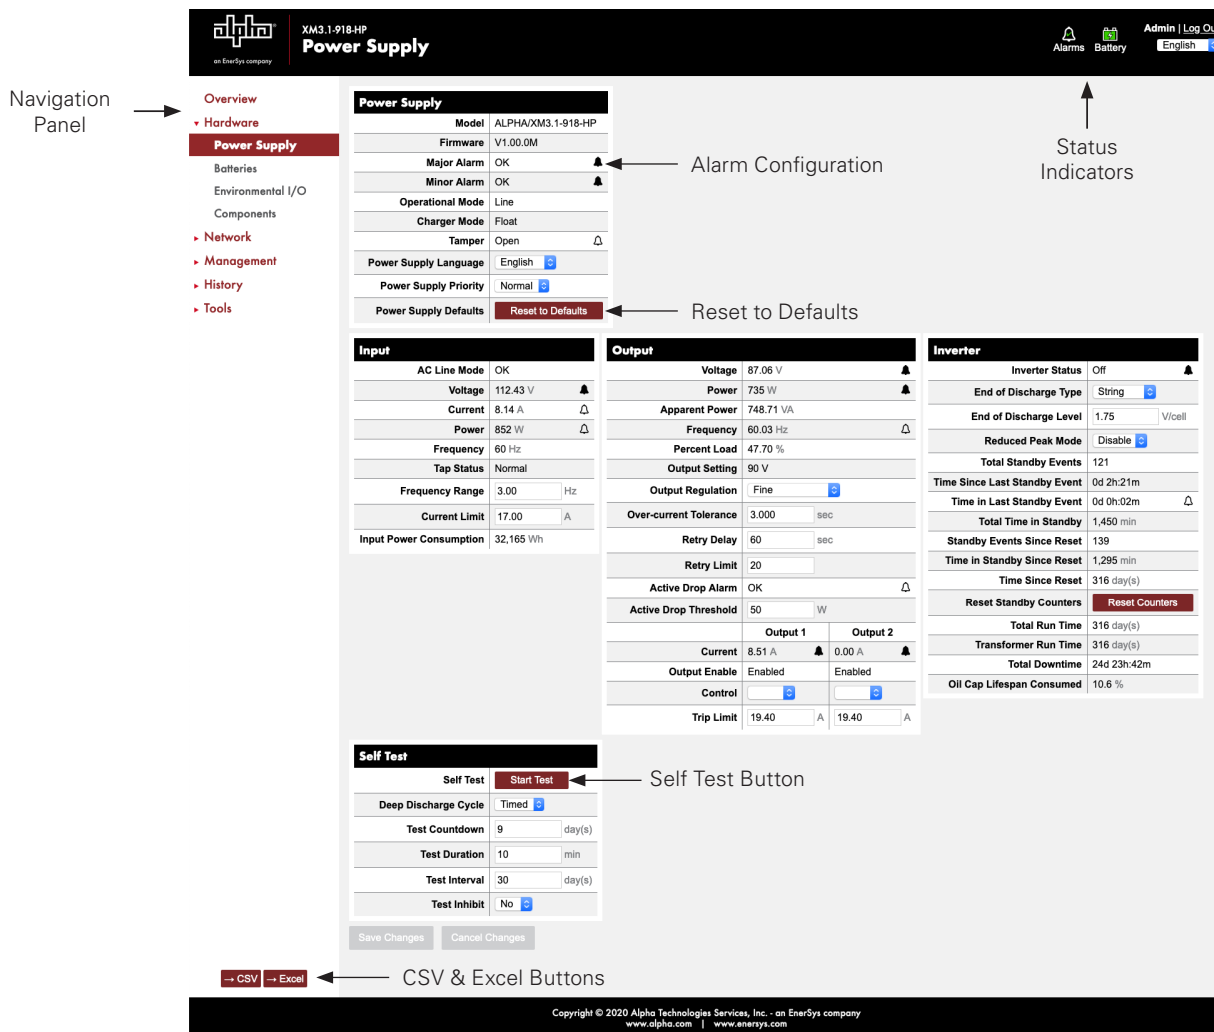

Fig. 2-32, Power Supply Web Page
4. The transponder's web server home page will appear (**Fig. 2-32**).